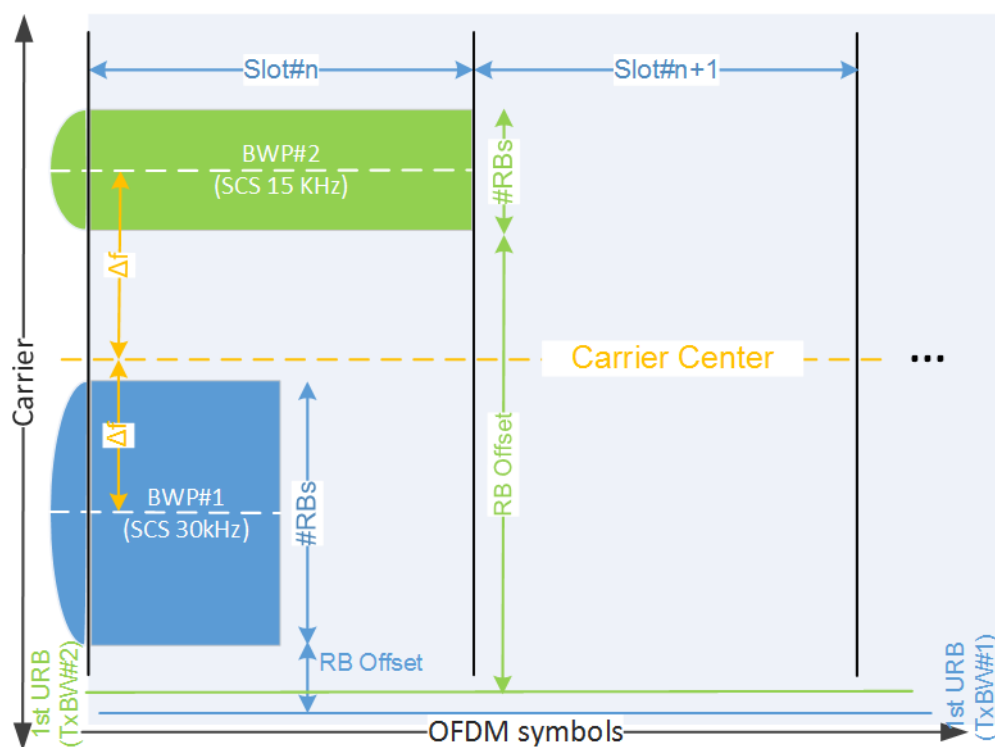

Figure 5-6: Bandwidth parts
- Figure 5-6
See also Figure 5-6.